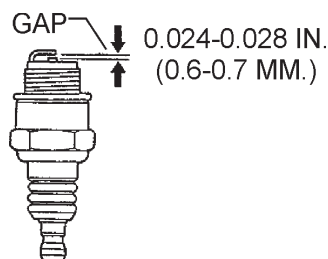

Figure 23. Spark Plug Gap
- Remove and clean the spark plug (Figure 23), then adjust the spark gap to 0.024 ~0.028 inch (0.6~0.7 mm). This unit has electronic ignition, which requires no adjustments.